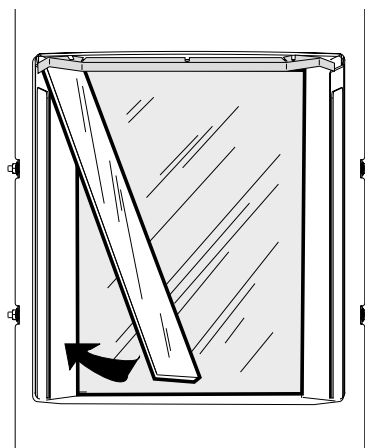

Figure 7.11. Install Side Glass Panels.
- Orient the side panels, smooth side out, and sliding each behind the retainer wings. See Fig. 7.11.